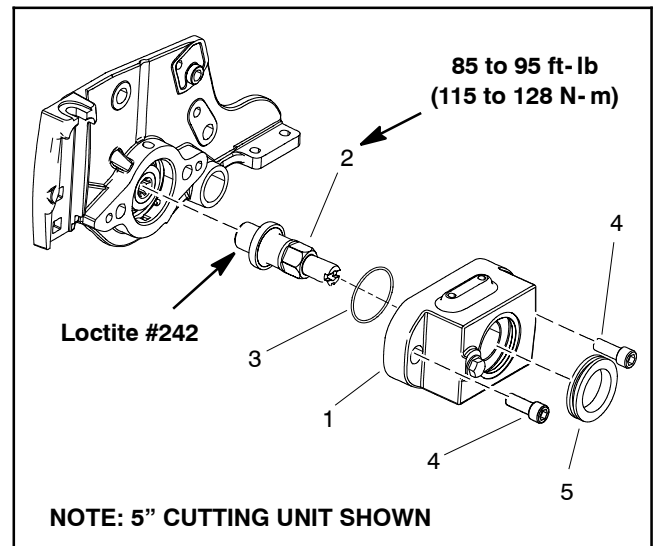

Figure 49
5. Remove roller brush drive shaft if needed (Fig. 49):
1. Install drive shaft if it was removed (Fig. 49):